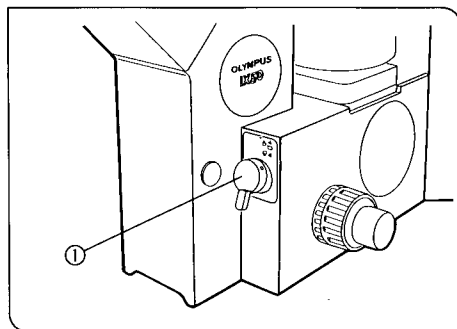

Fig. 53
**Microscope Frame (IX50)** (Fig. 53)